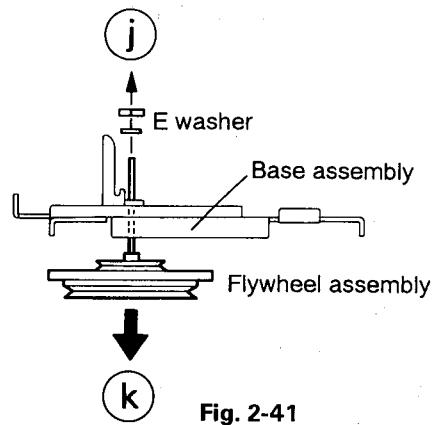

Fig. 2-41
■ Flywheel assembly (Fig. 2-41)
1. E. whasher retaining the flywheel assembly in the direction of arrow ①.
2. Pull the flywheel assembly out of the back side of the cassette mechanism in the direction of the arrow ②.